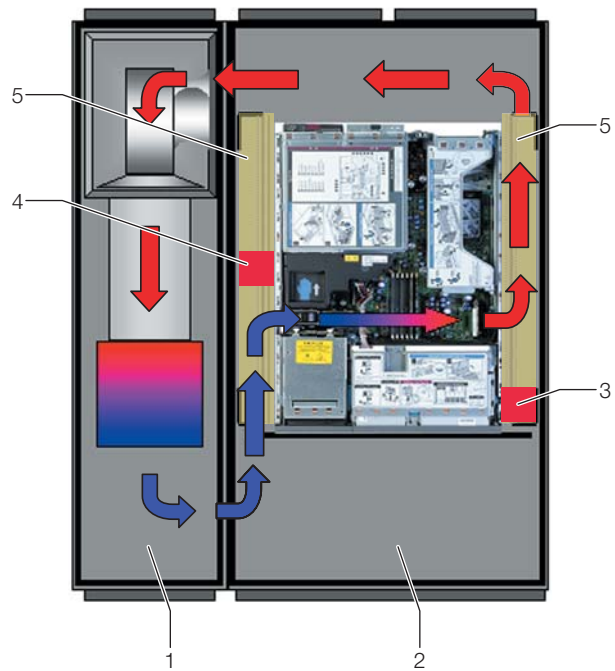

Fig. 20: Placement of foam strips for devices with sideways air throughput - top view
- If several devices which require sideways air throughput are included, cut out several pieces of the foam strip, as is appropriate, so that, ultimately, there is a cut-out in the foam to the left or right in the height of each such device in the server rack. Ensure that there are no gaps on the warm air side of the device (Fig. 20, item 3).
- Attach the foam strips to the cold air side of the devices facing backward (Fig. 20, item 4). Ensure that you attach the strips such that all fans built into the devices can draw air and that none of them are blocked.
The foam strips can be attached between the front and rear supports of the server rack along the entire depth of the devices with air throughput at the sides (Fig. 20, item 5).